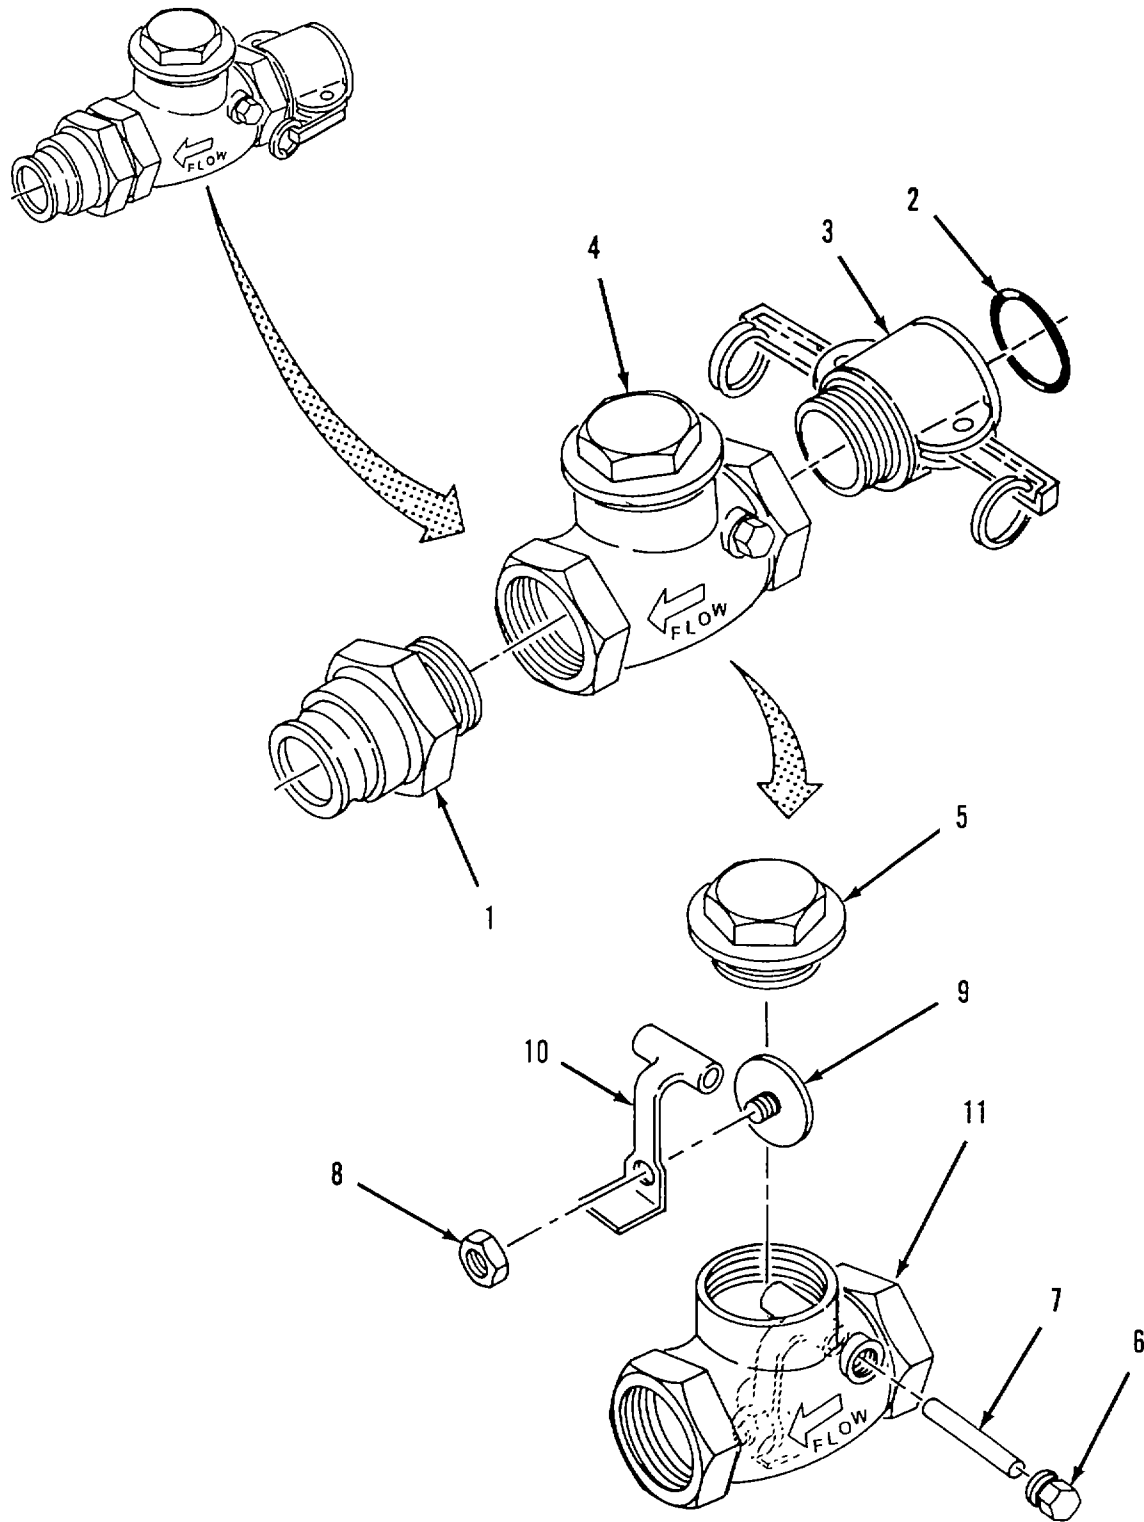

Figure 4-30. Check Valve Assembly (2-inch) Repair.
a. Disassembly. Refer to figure 4-30.
- (1) Place check valve assembly in vice.
- (2) Using pipe wrench, remove male coupling (1) from assembled valve (4).
- (3) Remove gasket (2) from female coupling (3).
- (4) Using pipe wrench, unscrew female coupling (3) from assembled valve (4).
- (5) Using pipe wrench, remove cap (5) from body (11).
- (6) Remove plug (6) body (11).
- (7) Pull pin (7) out from body (11) and lift out lever (10) and attached parts.
- (8) Remove nut (8) and separate disc (9) from lever (10).